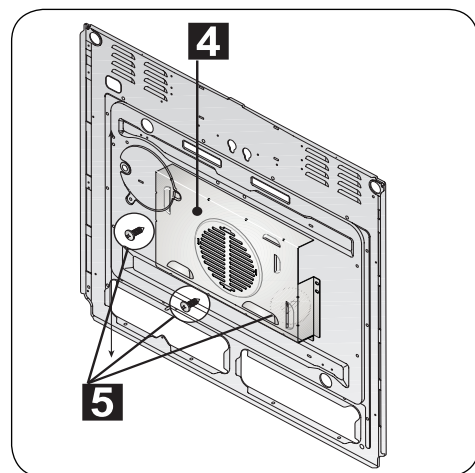

Fig. 11
- Remove back panel **4** by unscrewing respective locking screws **5** (fig. 11).